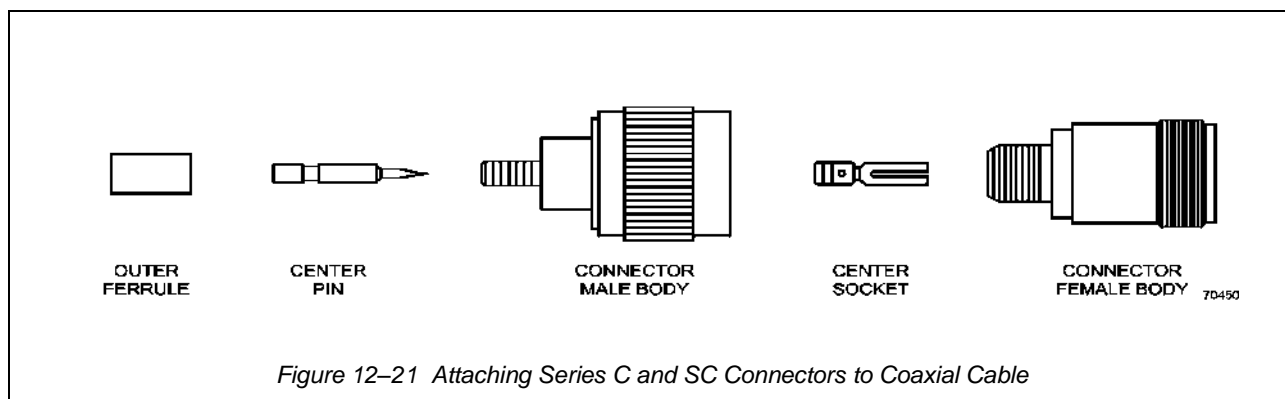

Figure 12-21 Attaching Series C and SC Connectors to Coaxial Cable
16. When attaching C and SC connectors to coaxial cable (see Figure 12-21), use the following procedure: